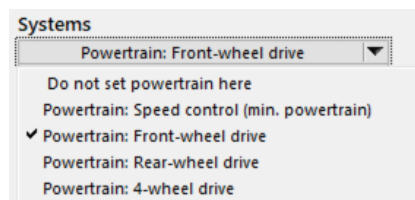
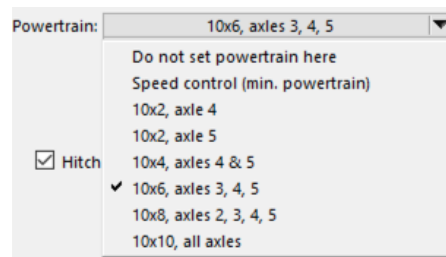

Figure 2. Drop-down control to specify how axles are powered.
Figure 4. Powertrain options for 5-axle lead unit in TruckSim.
In CarSim, the Vehicle Assembly screen has a drop-down list (Figure 2) for specifying the type of powertrain.
The next three options in the list (Figure 2) connect with libraries for Front-wheel drive, Rear-wheel drive, and 4-wheel drive.
TruckSim has six libraries for lead units with one to five drive axles. Screens for each of these libraries have a similar drop-down list. For example, Figure 4 shows the options available for a five-axle lead unit in TruckSim.
1. Make sure the lead unit does not set the powertrain: select the first option from the powertrain menu in CarSim (Figure 2) or TruckSim (Figure 4).